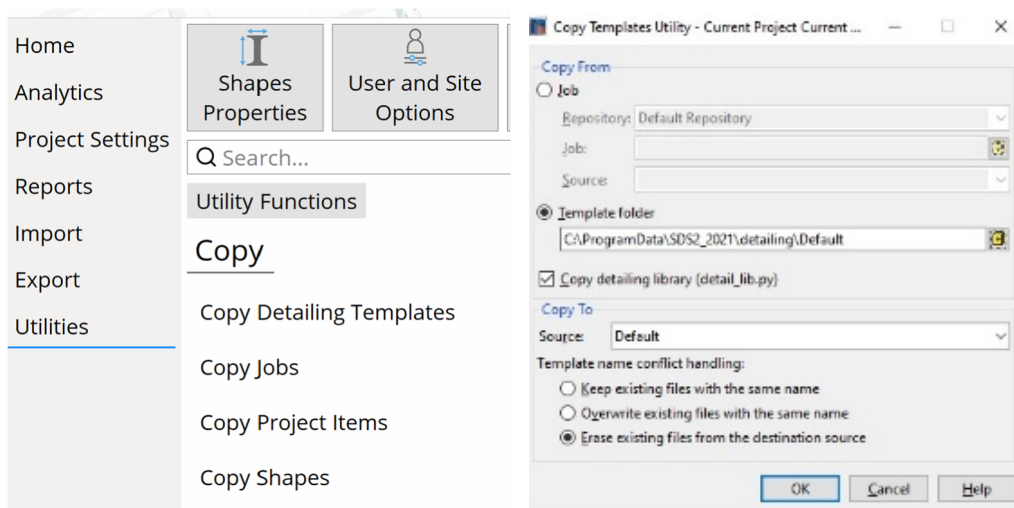

Figure 6-1. Copy Templates Utility Screen
- 4) On the *Copy Templates Utility* screen (see Figure 6-1):